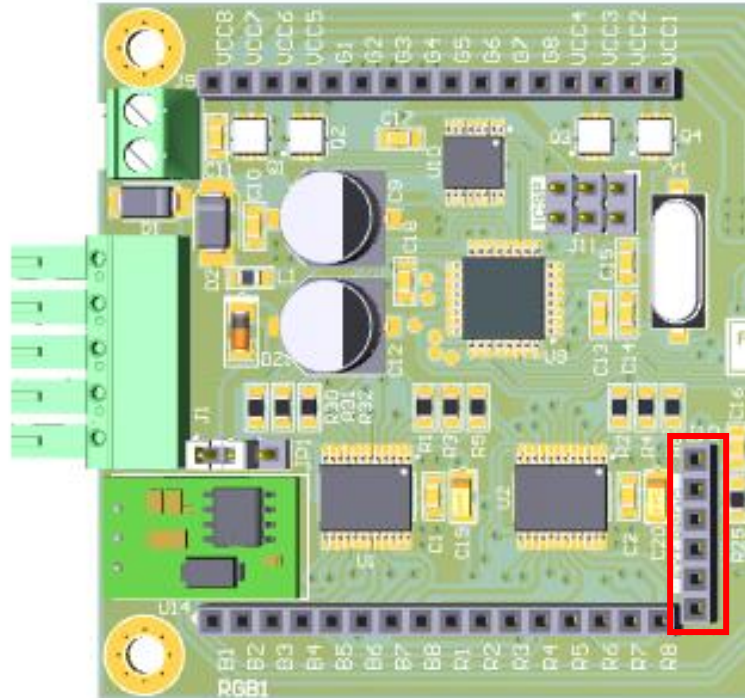

Fig. 5. Connector for USB programming.
- Solder a 6-poles strip for J10 (see Fig. 5)
- Saldare una strip a 6 poli su J10 (Fig. 5)